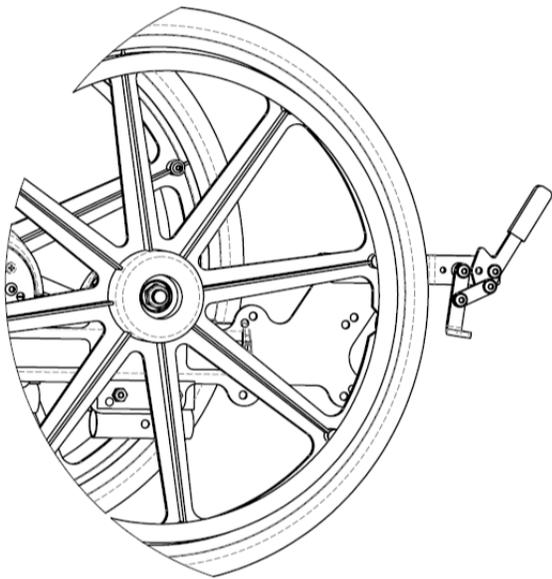

Figure 15.40: *Attendant Wheel Lock (Push to Lock)*
3. To engage the attendant wheel lock (see Figure 15.40), pull the lever towards the wheel until it locks into place.